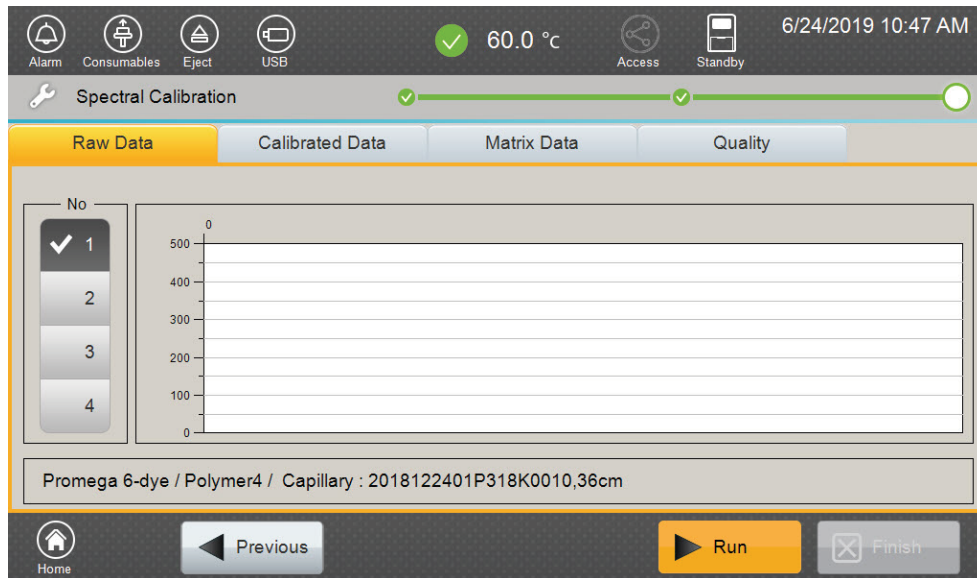

Figure 23. 'Spectral Calibration' screen.
- After the autosampler has returned to its home position, the 'Spectral Calibration' screen will automatically be displayed (Figure 23). Select **Run** to start the spectral calibration.